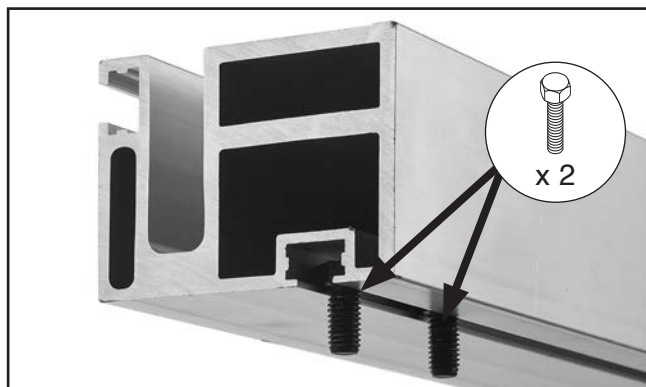

Figure 18. Hex bolts for mounting switch.
7. Insert (2) M8-1.25 x 16 hex bolts into bottom slot on left end of fence rail (see **Figure 18**). These will be used later for mounting the switch.